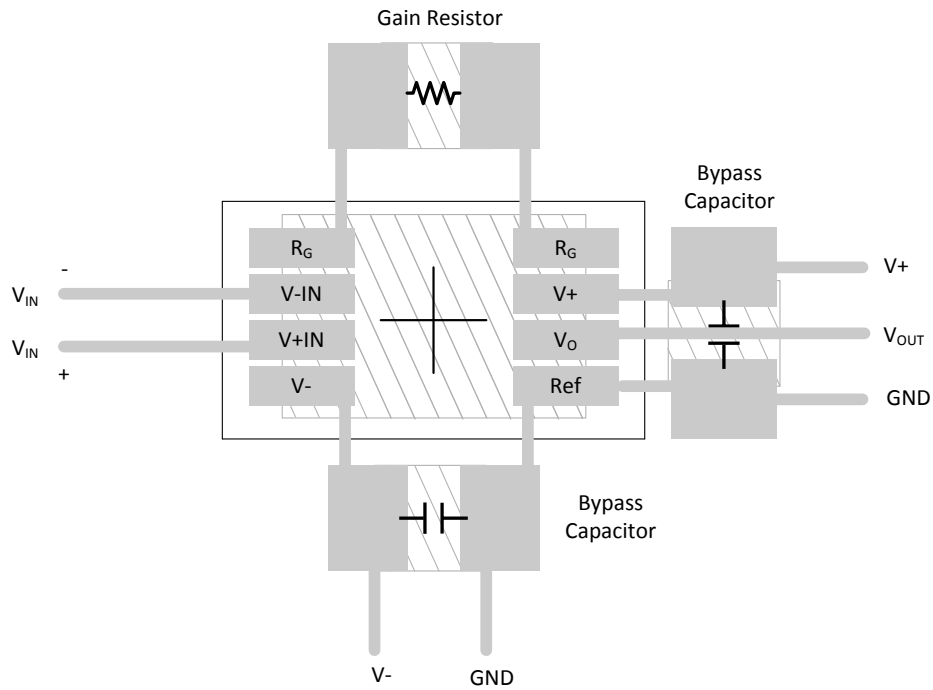

图 10-1. INA126 Layout Example
- Place the external components as close to the device as possible. As illustrated in 图 10-1, keep R_G close to the pins to minimize parasitic capacitance.